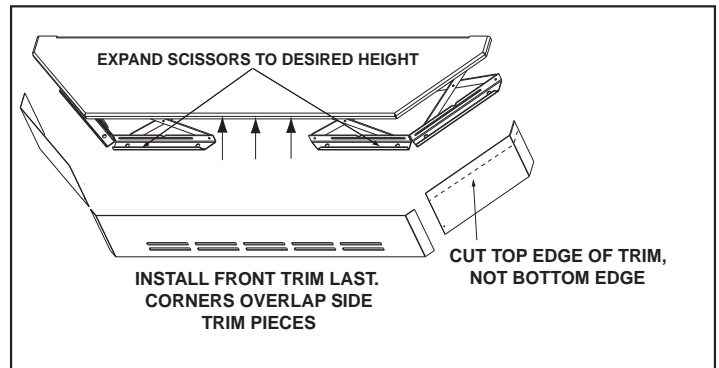

Figure 22.2
2. Expand scissors to desired height. Tighten screws to hold in place using Phillips Head screwdriver. **Figure 22.2.**
3. Measure front and side trims to required height to cover scissors and mark pieces for cutting. Cut excess material from top of trims edge, not bottom. This edge will be sharp; wear gloves to prevent injury to your hands. **Figure 22.2.**
4. Using sheet metal shears, cut trim along the marked edge. The cut edge fits under lip of top trim, so it allows for some variance in your straight edge. **Figure 22.2.**